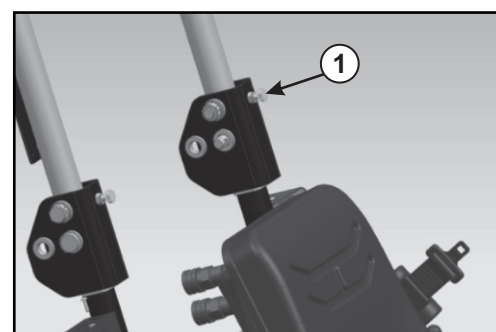

Fig. 4.27c
- Unscrew the Hex screw M10 (1, Fig. 4.27c) - 2 Nos.